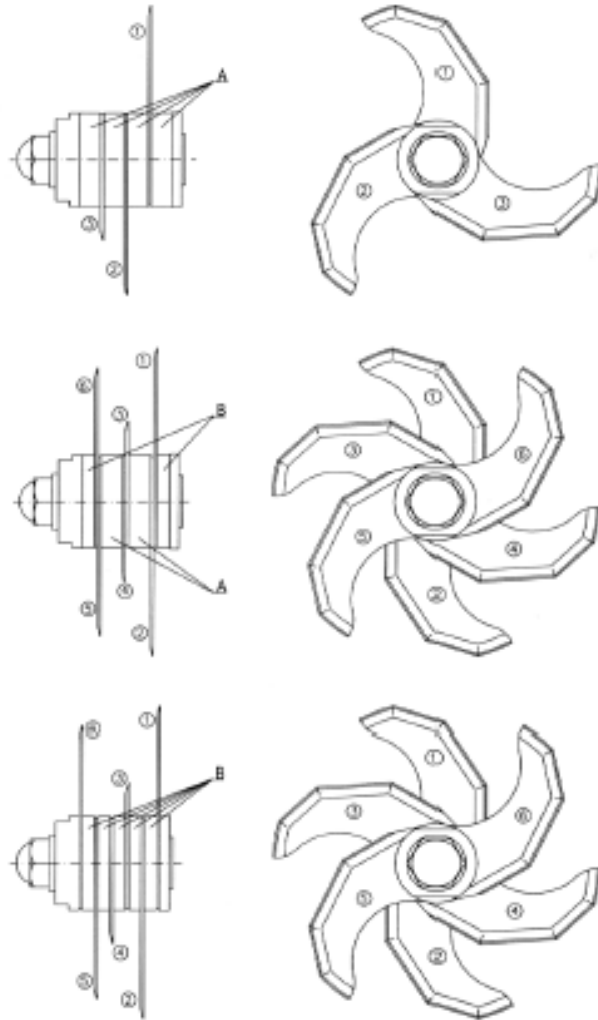

Fig. 2 - Different Knives Assembly Systems
- Remove the knives and the compensating rings separately, remembering first to make a note of their order and position (Fig. 2).